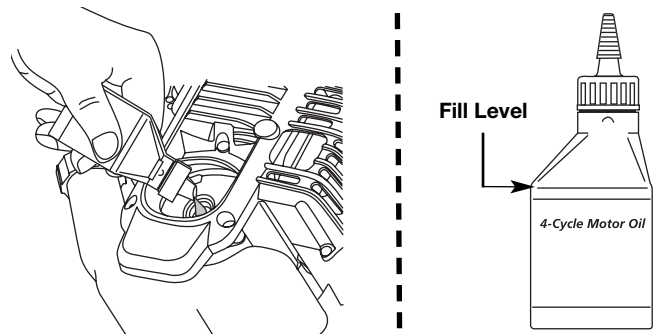

Fig. 21
6. If the oil level is not touching the inner most thread on the oil fill hole, add a small amount of oil to the oil fill hole and recheck (Fig. 21). Repeat this procedure until the oil level reaches the inner most thread on the oil fill hole.
**NOTE:** Use the bottle and spout saved from initial use to measure the correct amount of oil. The top of the label on the bottle measures approximately 3.04 ounces (90 ml) (Fig. 21). Check the level, See *Checking the Oil Level*. If the level is low, add a small amount of oil and recheck. Do not overfill (Fig. 21).